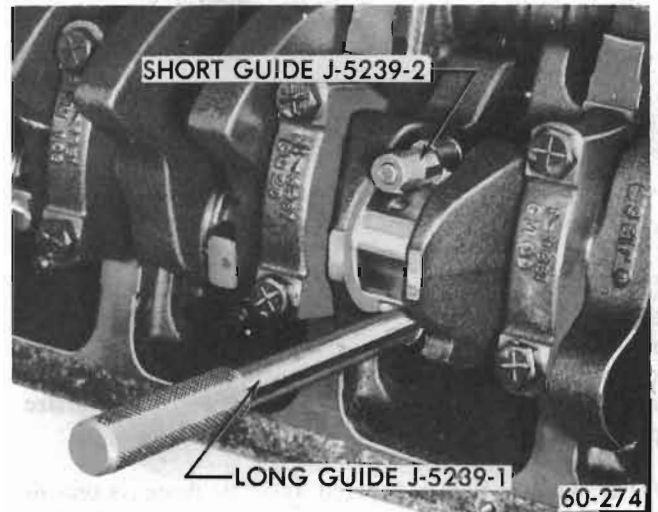

Figure 60-40--Connecting Rod Bolt Guides Installed
4. Remove cap and bearing shell from No. 1 connecting rod. Install connecting rod bolt guides on the bolts to hold the upper half of the bearing shell in place. See Figure 60-40.